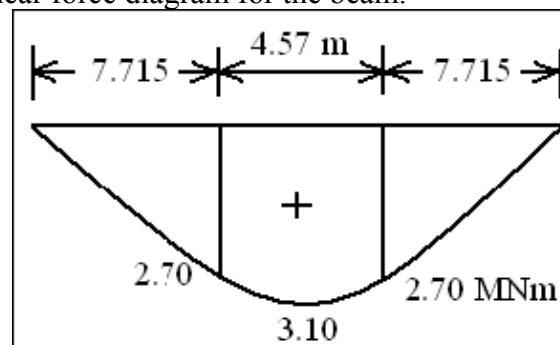

figure 4
8. The following figure 4 indicates the Bending Moment diagram. Develop the loading and Shear force diagram for the beam. [16]